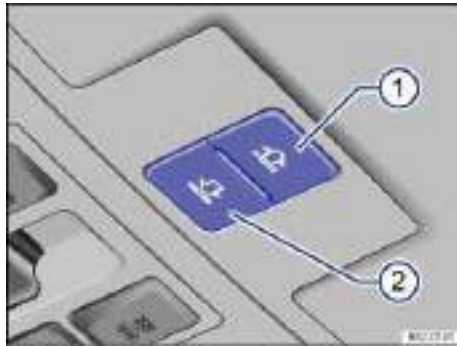

Fig. 33 In the headliner: Buttons for the power sunshade.
Buttons ⇒ fig. 33 (1) and (2) have 2 detents.
Function	Action ⇒ fig. 33
- *Power sunshade:* Within about 5 seconds after the sunshade has stopped, press and hold button ⇒ fig. 33 \(2\) until the power sunshade closes completely.